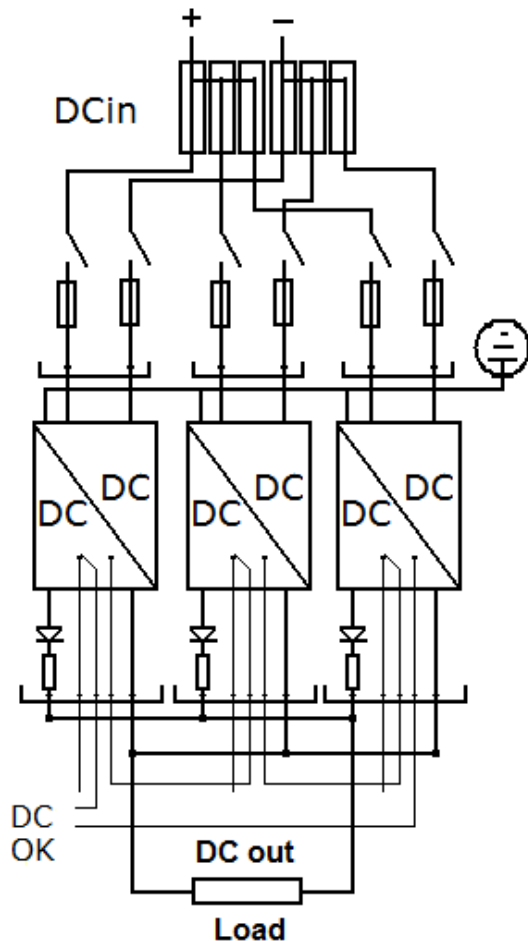

Figure 3. An N+1 system with two units for the load and one for the redundancy.
The figure 3 shows a N+1 system with two units for the load and one for the redundancy. Each Power supply has a built in; series diode (C), balancing resistor (R) and alarm Relay option B. The alarm is cascade connected. Note that each DC/DC converter has individual external input fuses.